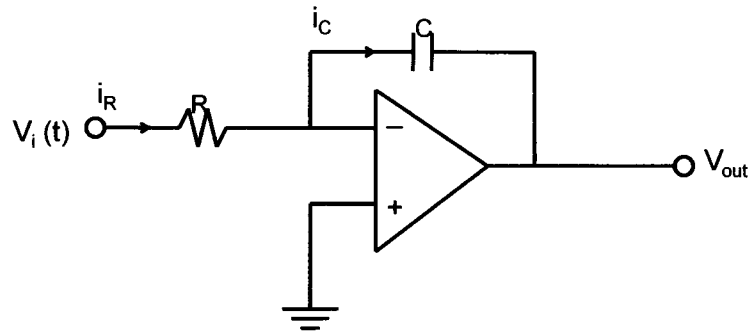

**FIGURE Q3**
**Q3.** Figure Q3 shows the grafset diagram for the Conveyor Belt's operation.